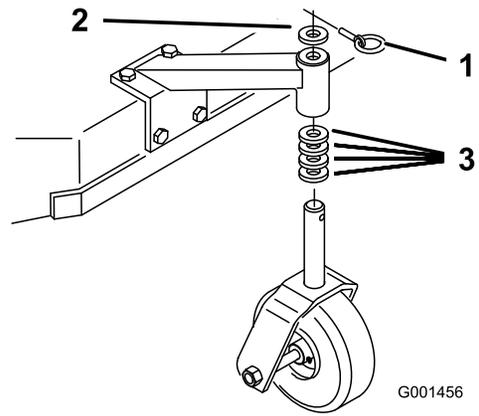

Figure 19
- Using the Height-of-Cut Chart, adjust the caster spacers to match with the axle hole selected (Figure 19).
- Remove the latch pin, slide the caster from the support, and change the spacers (Figure 19).
- Install the caster in the support and insert the v pin (Figure 19).